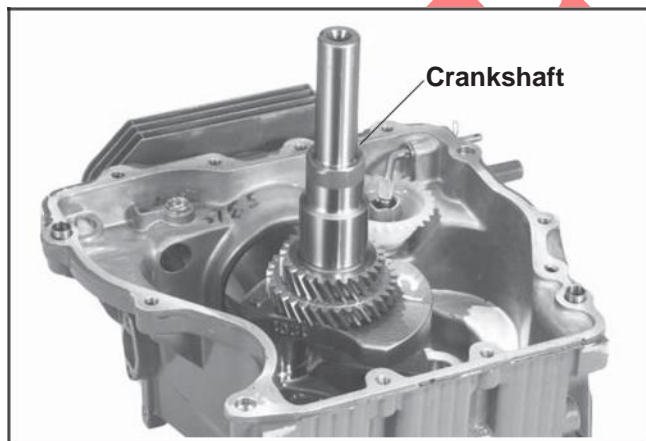

Figure 9-50. Removing Crankshaft.
2. Remove the crankshaft from the crankcase. See Figure 9-50.